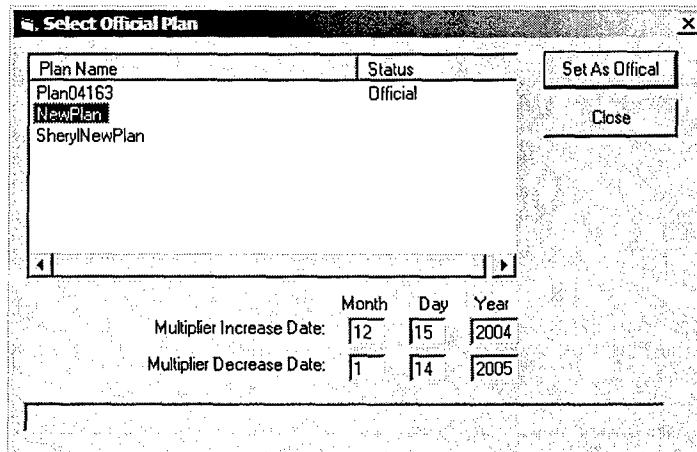

Figure 33. Select Official Plan
- Select a plan from the list on the screen shown in Figure 33. The plan that is currently official is denoted as such.
6. When you are finished changing the Official Plan, close the *Select Official Plan* screen (Figure 33).